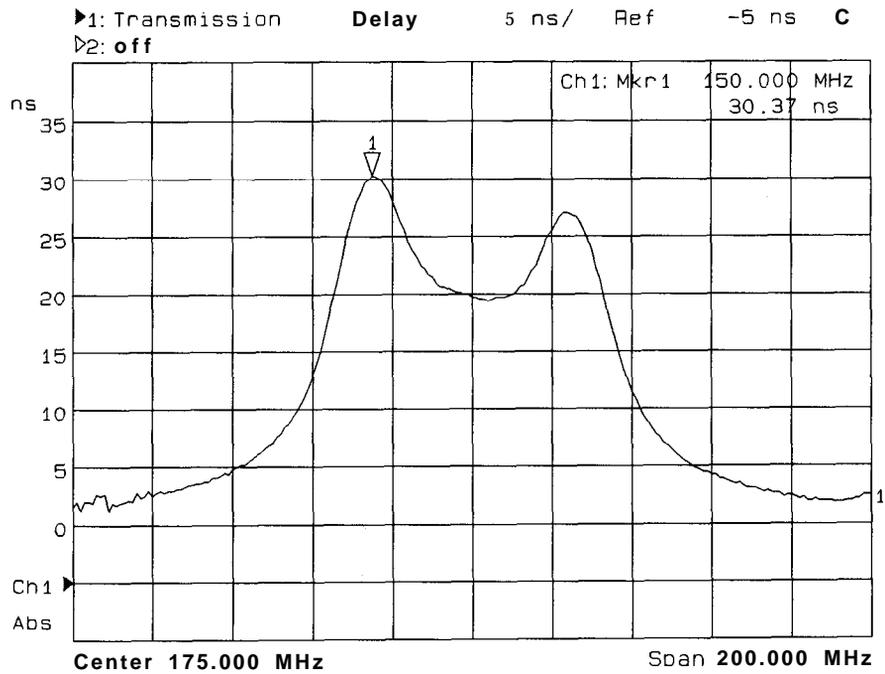

Figure 3-20. Example of a Phase-Derived Delay Measurement Display
2. To interpret the group delay measurement, refer to Figure 3-20 or your analyzer's display if you are making this measurement on your instrument.
4. Note the marker readout in Figure 3-20 provides the frequency and delay (in nanoseconds) of the maximum delay point.